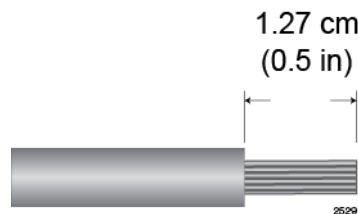

Figure 124. Stripping the Stranded Grounding Wire
1. Prepare an adequate length of stranded 10 AWG grounding wire by stripping it as shown in Figure 124.